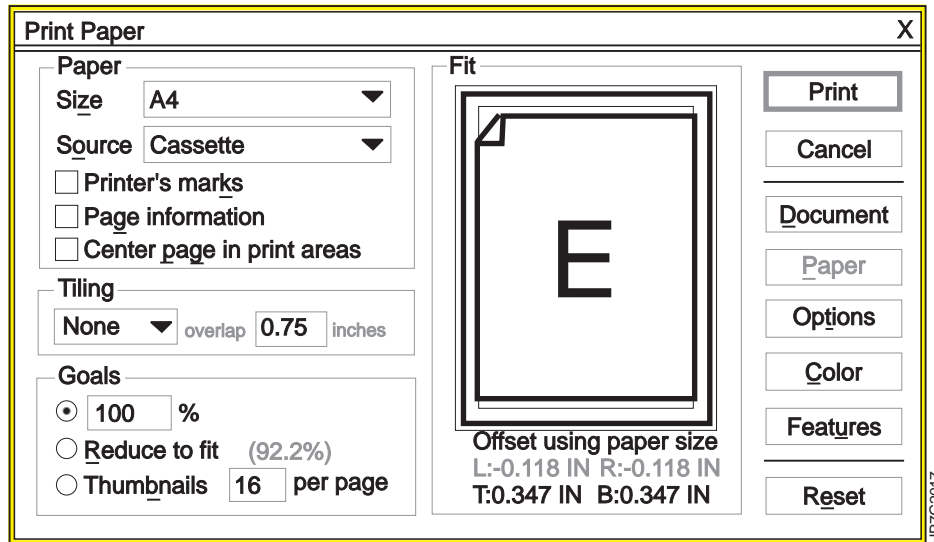

Figure 84. Sample Paper Dialog from Adobe PageMaker 6.0
- 2 Select the correct paper size from the **Size** drop-down menu, as shown in Figure 84 on page 105 (see “Page Sizes in the InfoColor 70 PPD” on page 101). You can select either a standard paper size, or a custom paper size.